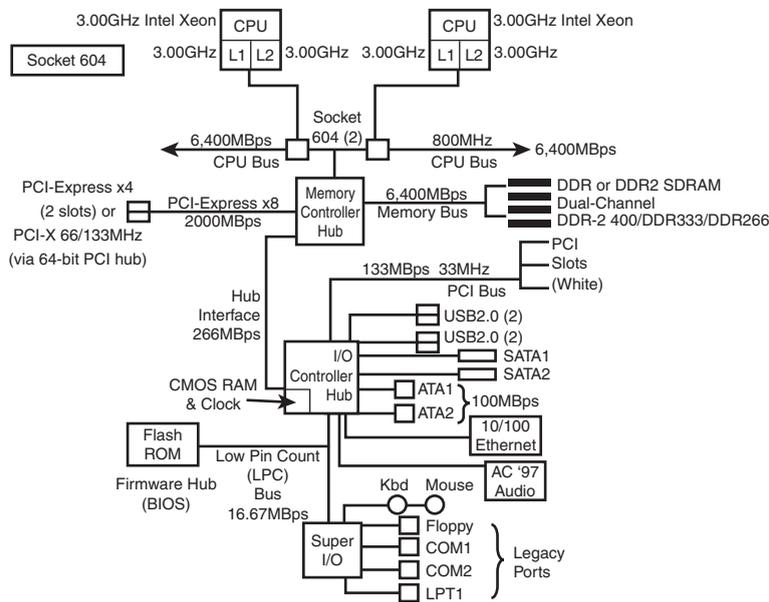

Figure 3.6 A typical bus design for a recent two-way server based on the Intel Xeon processor.
Most recent one- or two-way servers use bus designs similar to those shown in Figures 3.5 and 3.6. Figure 3.6 shows the bus design for a typical dual-processor Intel Xeon server running at 800MHz CPU (FSB) using the E7525 chipset.
A system running an AMD Opteron processor has a different bus design from the one shown in Figure 3.6:
- The Opteron uses an integrated dual-channel DDR memory controller rather than the traditional North Bridge/MCP design shown in Figure 3.6.